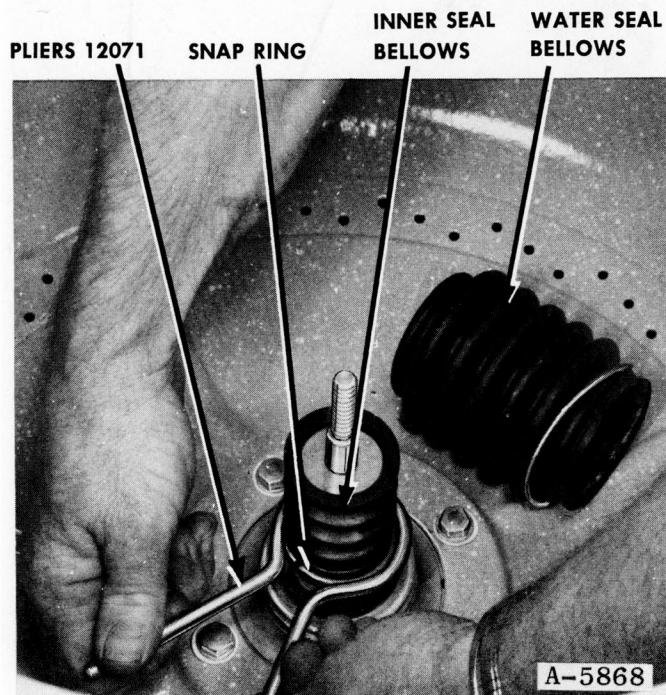

Figure 70
2. Disengage the snap ring, Figure 70, that retains the water seal bellows on the tub, using 12071 pliers; remove the bellows.